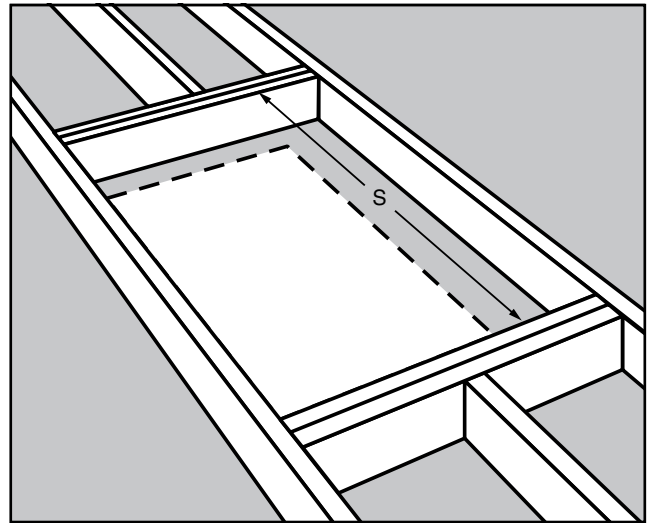

FIGURE 17
- STEP 1.** Measure the stringer length “S” between the headers (See Figure 17).
- STEP 3.** If the ceiling joist does not provide one side of the frame, then cut a second stringer the same length as the first one. Note that only one stringer is needed in Figure 17 because the ceiling joist provides one side of the frame.